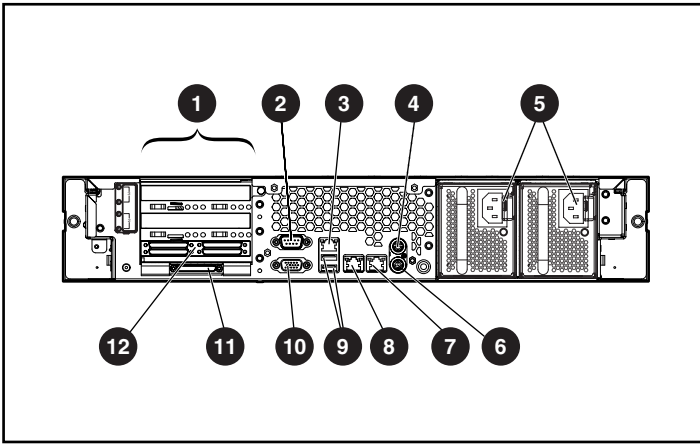

Figure 3: Rear panel connectors
1. Connect the Ethernet cables to the respective network ports of the NAS 2000s and the corresponding network segments. See Figure 3 and Table 2 on page 14 for the locations of the network ports on the NAS 2000s.